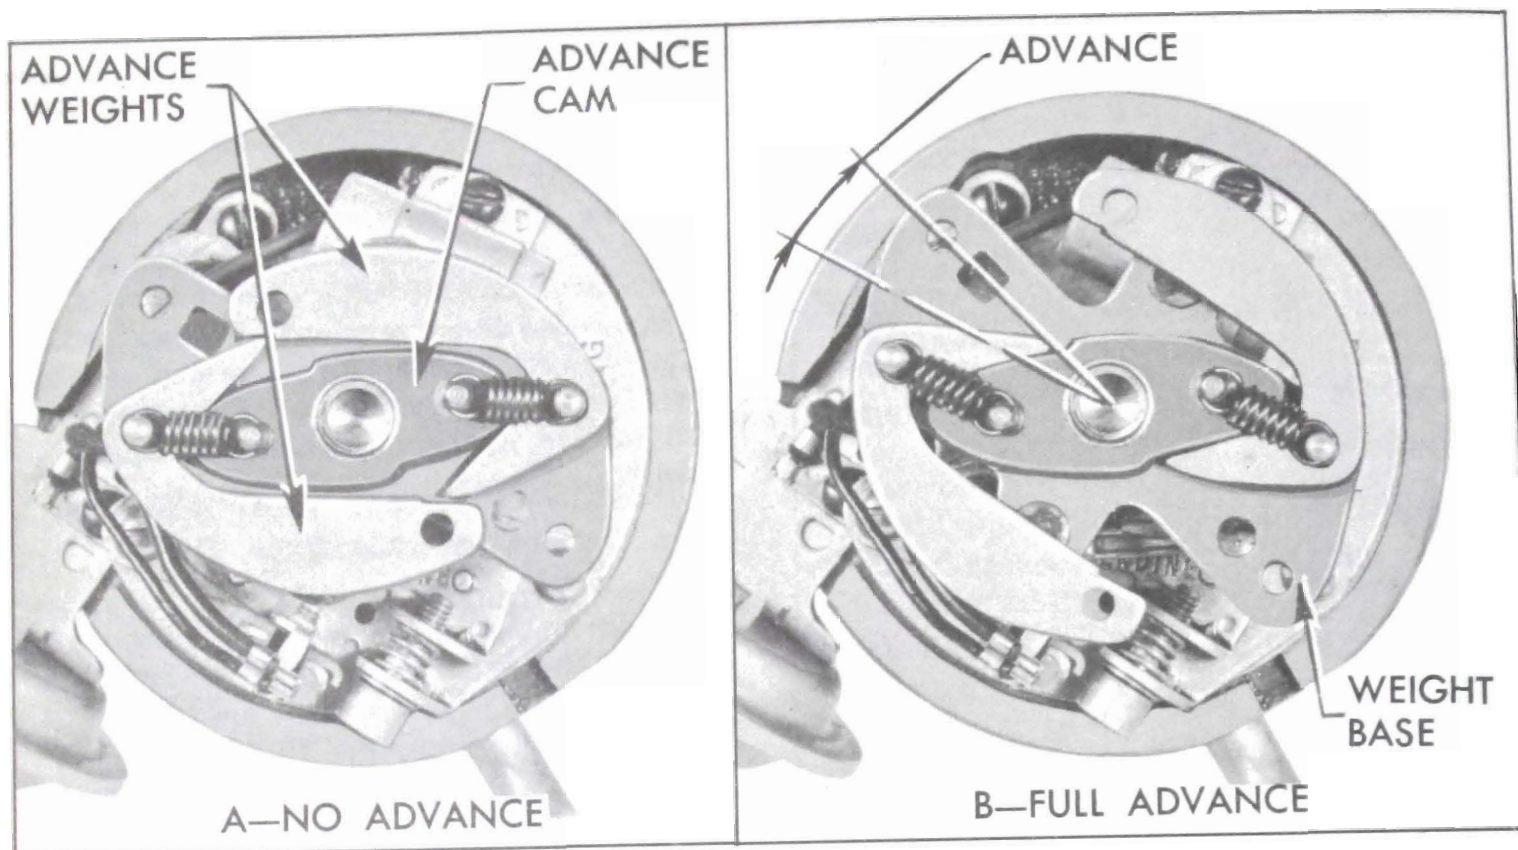
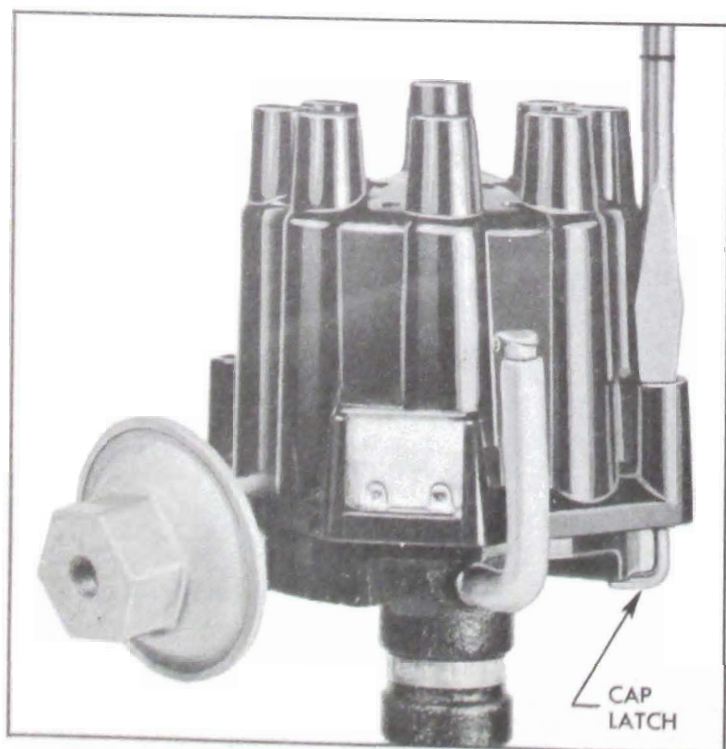

Figure 10-33—Centrifugal Advance Mechanism
Figure 10-36—Removing Distributor Cap
The distributor is of the single contact type with an 8-lobe cam. High speed operation is improved by an especially light contact breaker arm and a high speed cam. See figure 10-36. Maximum operating efficiency of the engine is obtained under all speed and load conditions by the centrifugal advance mechanism, which is located above the circuit breaker cam inside the rotor, and the vacuum advance mechanism built into the distributor. See figures 10-33 and 10-34.
1. Remove distributor cap by inserting a screwdriver in upper slotted end of cap retainers, press down and turn 90° in either direction. See figure 10-36. Push distributor cap aside and remove rotor. Disconnect the condenser and primary leads from their terminal by loosening the retaining screw. Remove condenser screw, lockwasher, condenser and bracket.